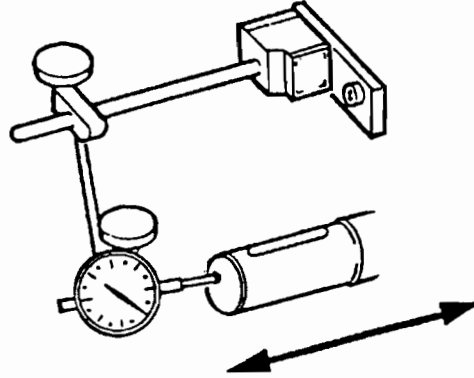

Fig 4.
- 2.6.3 Using a dial test indicator with a magnetic stand, place the magnetic base onto the steel plate and with the button of the "clock" on the end of the shaft, check that there is an end float 0.150mm - 0.292mm (0.006" - 0.0115") see Fig 4.